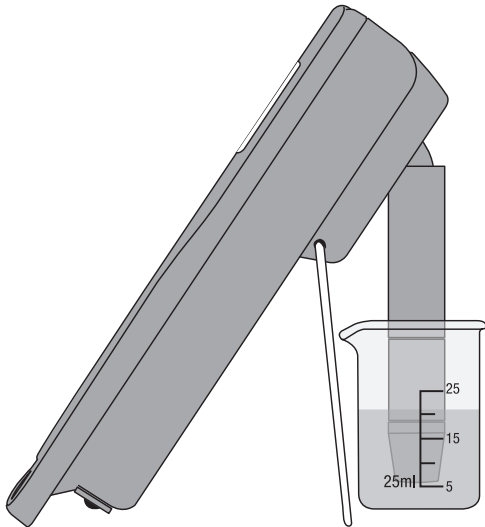

Fig 3
- Refer to Figure 3: place test container under the instrument, and place the tester probe (5) into the brake fluid. Note: take care with the tester probe, do not drop or knock, which may damage sensor and ceramic components.